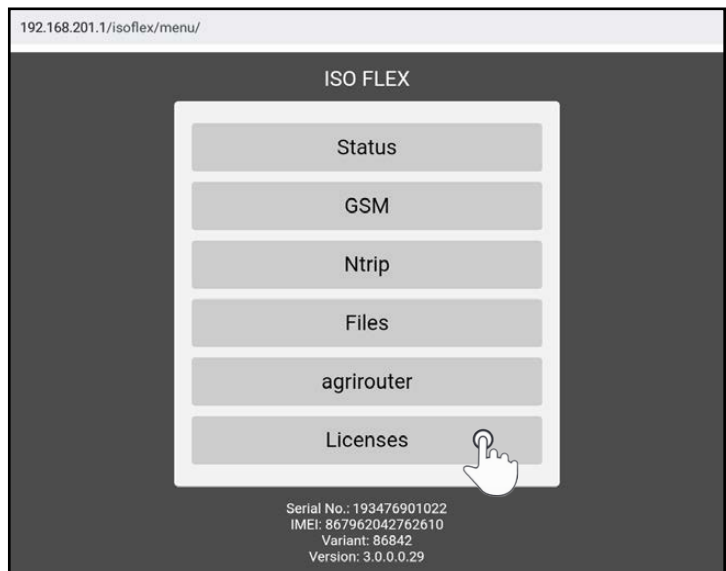

Fig. 161: "Licenses" menu item in ISO FLEX configuration menu
7. Tap the "Licenses" menu item on the start page of the configuration menu (see Fig. 161).